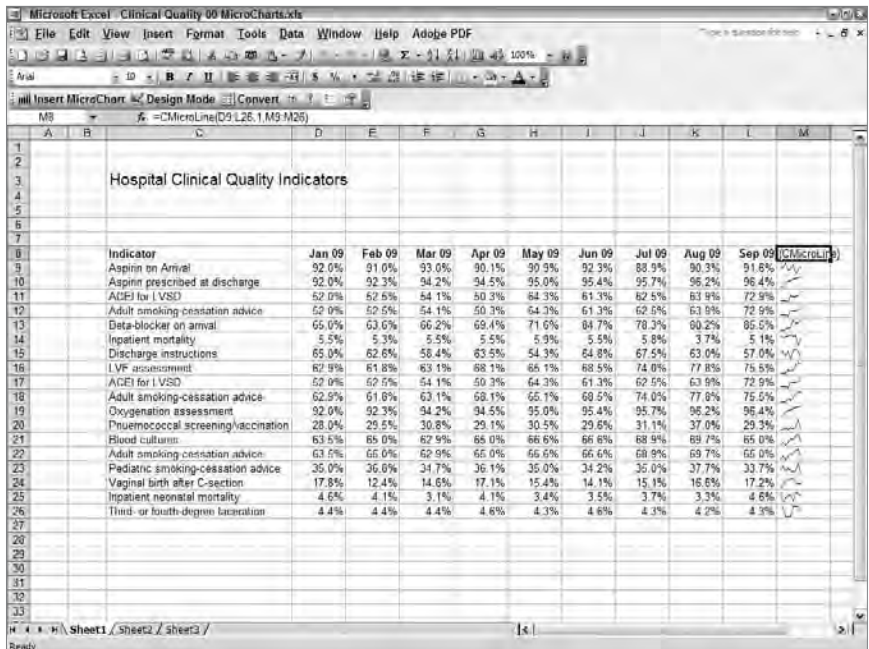

Figure 26.6: MicroCharts are inserted in the cells you have specified. The custom function is visible in the cell above the charts and in the formula bar.
6. Click OK to complete the MicroCharts. In this example, the chart for each row of data will appear to the right of those data. The MicroCharts function is visible in the cell above the charts and in the formula bar shown in Figure 26.6. You can later make this appear as a text title.